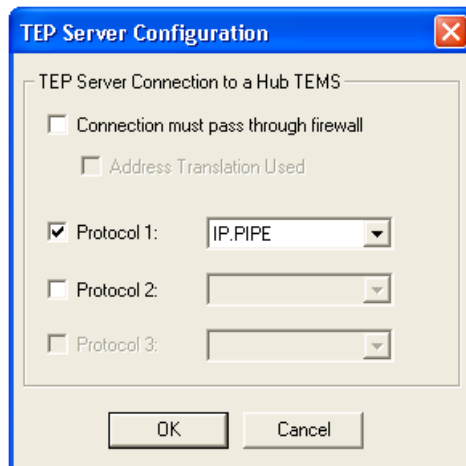

Figure 4-4 Protocol selection for communication with hub TEMS
1. From the Manage Tivoli Enterprise Monitoring Services window, click the application you want to configure and then select **Action** → **Reconfigure....** If the application has not been initially configured, you may need to select **Action** → **Configure....** Figure 4-4 shows the selection of communication protocol for communicating with the hub TEMS.